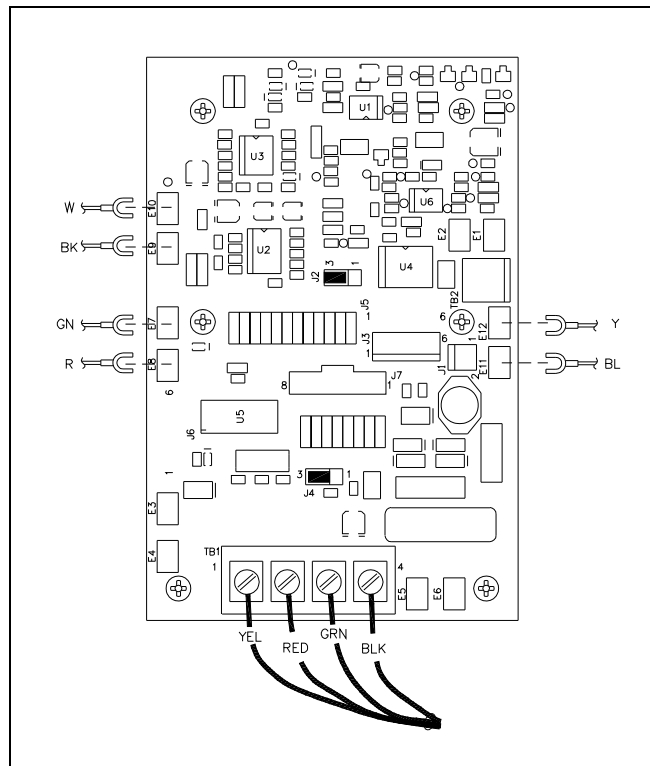

Figure 1.
3. Remove the wires from TB1 and transport the panel to a clean work surface. See Figure 1.
4. Disconnect the handset wires: blue (E11), yellow (E12), red (E8), green (E7), white (E10) and black (E9). See Figure 1.
13. Plug the spades of the handset into the E-clips on the PCBA as shown in Figure 1.
14. Reconnect TB1 wires as shown in Figure 1.